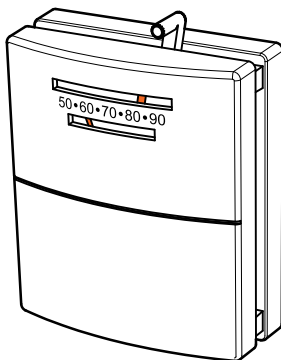

Figure 24.1
1. A low voltage thermostat is required to operate this pellet appliance. You may use the included wall mount thermostat (**Figure 24.1**) or purchase an optional programmable thermostat or remote control. It is equipped with an adjustable heat anticipator. The current rating is .05 amps. The anticipator needs to be adjusted to the lowest setting available.
- f. Snap the thermostat to the cover plate to the backer plate (**Figure 24.1**).